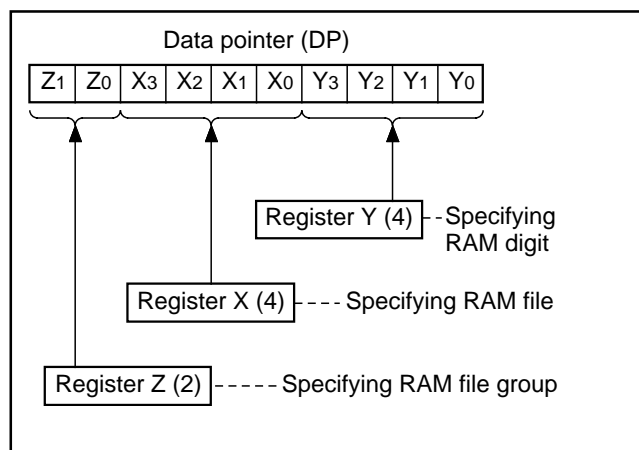

Fig. 8 Data pointer (DP) structure
(9) Data pointer (DP)
Data pointer (DP) is used to specify a RAM address and consists of registers Z, X, and Y. Register Z specifies a RAM file group, register X specifies a file, and register Y specifies a RAM digit (Figure 8).